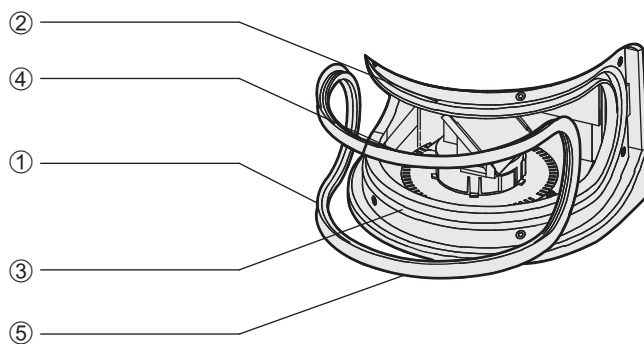

Figure 61: Inserting the rubber seal
- ➔ Place the front screen on the rubber seal and insert the new mounting screws ① to ④ with spacers (see Figure 61).
- ➔ Press the front screen on the front of the cover. During this process tighten the front screws ① to ④ to the torque set.
- ➔ Then insert the rest of the screws ⑤ to ⑧ with spacers (see Figure 61) and tighten using the torque wrench.